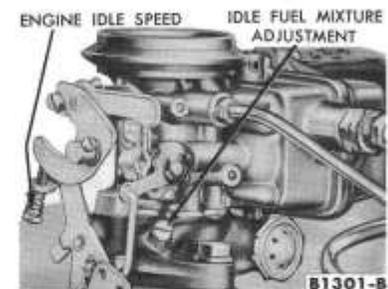

FIG. 17—Idle Adjustments
21. Check And Adjust Engine Idle Speed. Final engine idle speed may be varied to suit the conditions under which the car is to be operated. Refer to Fig. 17. On a car with an air con-
22. Check and Adjust Idle Fuel Mixture (Refer to Fig. 17). Make the initial mixture adjustment by turning the needle in until it lightly touches the seat, then back it off 1-1½ turns. Do not turn the needle against the seat tight enough to groove the point. If the needle is damaged it must be replaced before a proper mixture adjustment can be obtained.